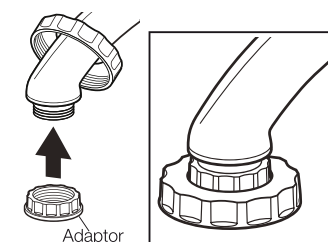

Figure 3.5 – Installing Adaptor/Collar to Faucet
4. Attach the adaptor to the threads on the kitchen faucet (see Figure 3.5). Tighten using the adjustment tool on slits in underside of adaptor. If this adaptor does not fit your faucet, try one of the other plastic adaptors supplied in the adaptor set. Slide the collar down over adaptor after installing (see Figure 3.5).